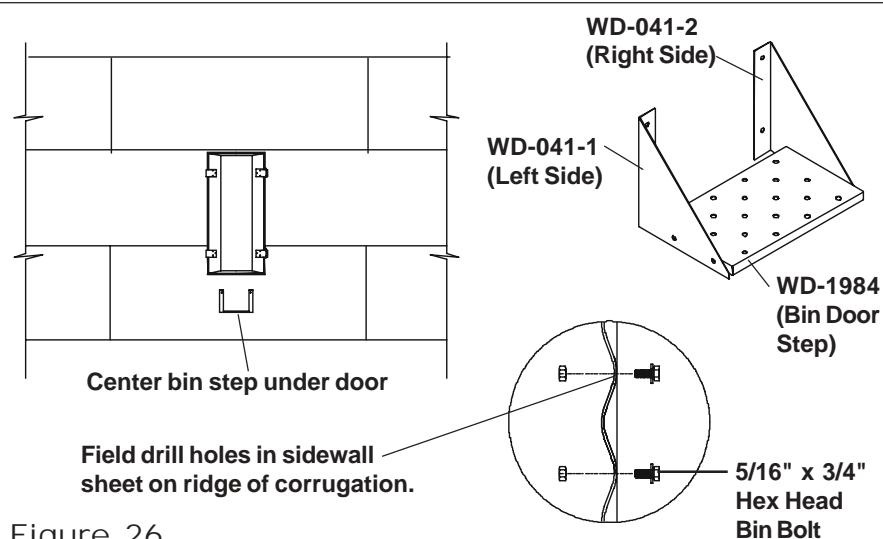

Figure 26
1. Attach the left and right sides to the sides of the bin step using four (4) 5/16" x 3/4" Gr.5 hex head bin bolts & nuts. (See Figure 26.)